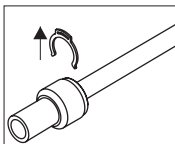

Fig. 1
- 1) Take off the securing safety clip from the quick connector (fig. 1).